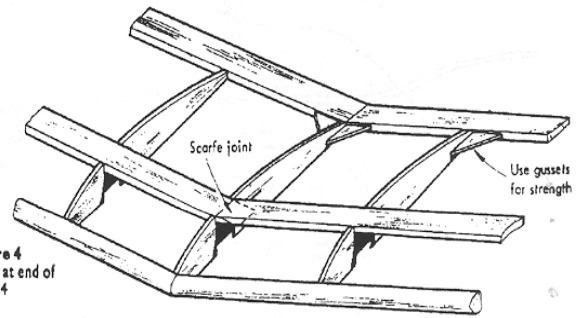

Figure 4 Wing at end of Stage 4
(2) Lift panels from board and attach tips to centre panels at correct dihedral angle (only two joints to line up).
(3) Insert one centre panel spar with overlap for scarf joints (make sure spar fits snugly into rib slots and does not stick out above rib outline anywhere).
(4) The other centre panel spar (assuming a polyhedral wing) can be scarf jointed to the first spar - check for an accurate fit - very important for strength (see Figure 4).
(5) Scarf joint the tip spars to the two centre panel spars — you should now have a complete wing spar fitted in, and the wing is now much easier to handle correctly.
(6) Repeat Items 3 to 5 for *all* other spars.